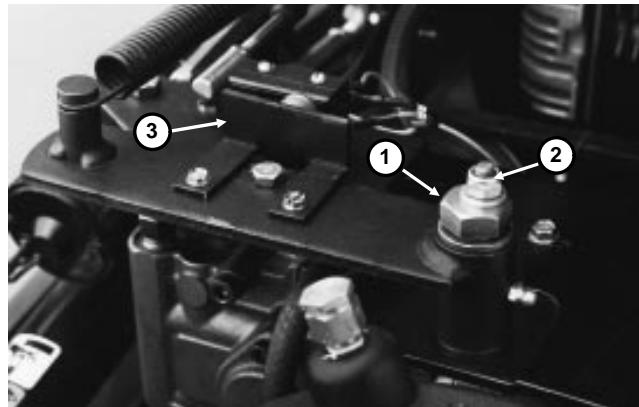

Figure 14
Transmission Neutral Adjustment (Fig. 14)
4. Disconnect stroke control cable ball joint (Item 43) from pump lever (Item 30). Disconnect upper and lower speed adjustment rods from pump lever (see Fig. 14).